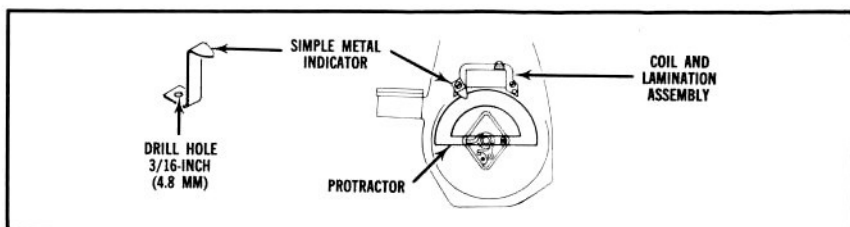

FIGURE 12
- Make a simple indicator for the degree wheel from the lid of a tin or coffee can (Figure 12). Mount the indicator on one coil lamination leg (either side is all right) in the same way as shown in Figure 12.